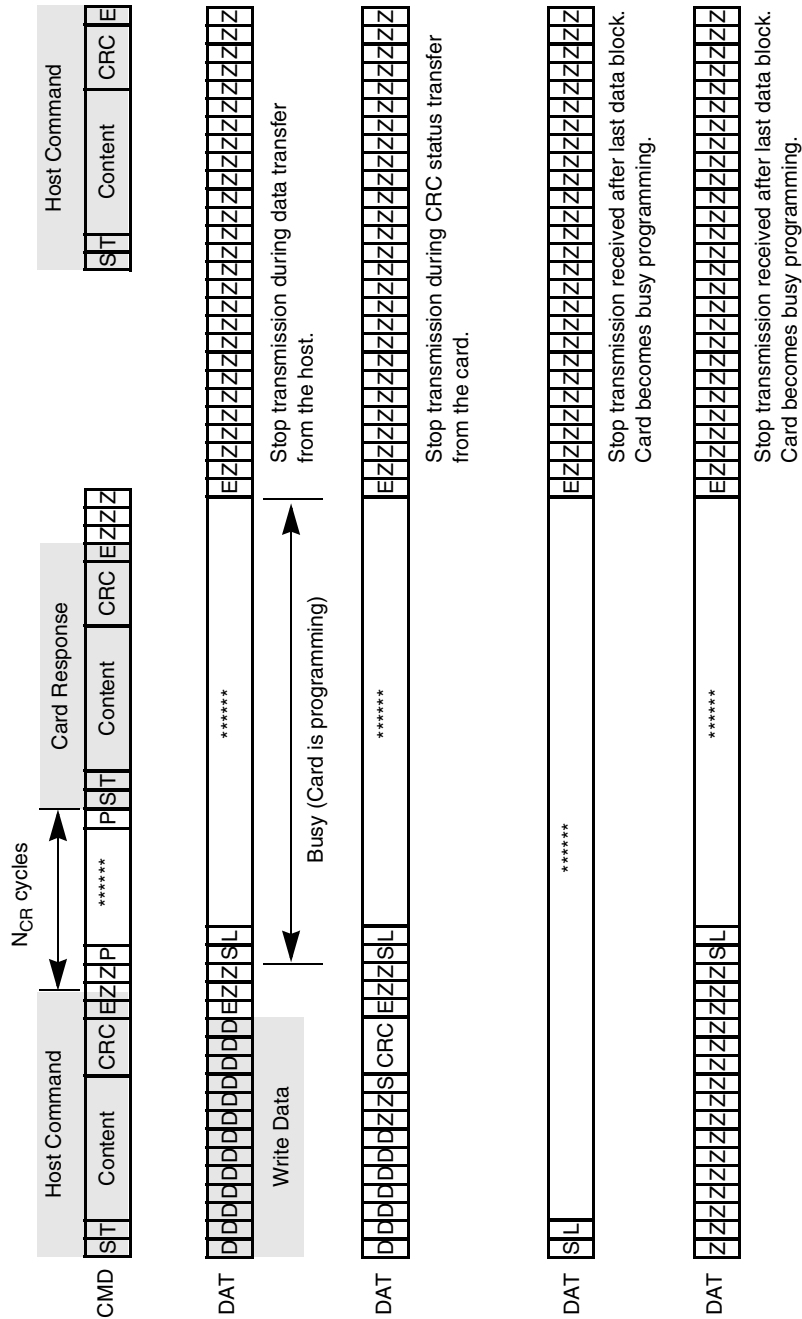

Figure 47. Stop Transmission During Different Scenarios
The card identification and card operation conditions timing are processed in open-drain mode. The card response to the host command starts after exactly  $N_{ID}$  clock cycles. For the card address assignment, SET\_RCA is also processed in the open-drain mode. The minimum delay between the host command and card response is NCR clock cycles as illustrated in Figure 43. The symbols for Figure 43 through Figure 47 are defined in Table 23.
**Table 23. State Signal Parameters for Figure 43 through Figure 47**
The stop transmission command may occur when the card is in different states. Figure 47 shows the different scenarios on the bus.
Table 24. Timing Values for Figure 43 through Figure 47
**Table 24. Timing Values for Figure 43 through Figure 47 (Continued)**